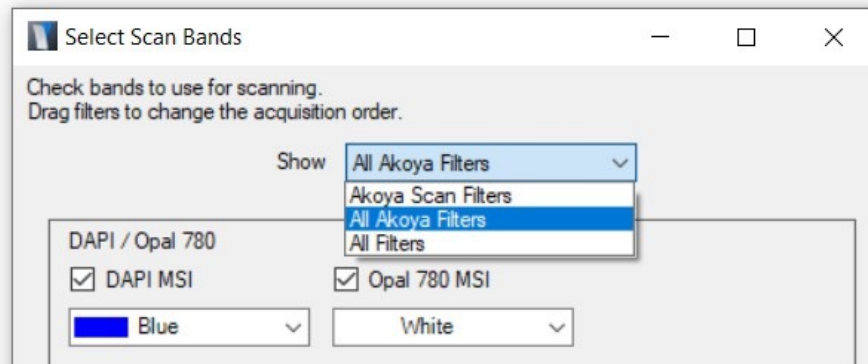

Figure 4.28. Select scan bands—show drop-down list.
- Show All Akoya Filters to display all installed Akoya filters, both for scanning and taking multispectral fields (Figure 4.28.)